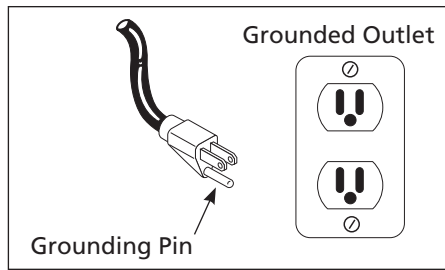

Figure 4 - Grounding Method
3. This product is for use on a nominal 120 volt circuit and has a grounding plug that looks like the plug illustrated in Figure 4. Make sure the product is connected to an outlet having the same configuration as the plug. This product must be grounded. In the event of an electrical short circuit, grounding reduces risk of electrical shock by providing an escape wire for electric current. This product is equipped with a cord having a grounding wire with an appropriate grounding plug. Plug must be plugged into an outlet that is properly installed and grounded in accordance with all local codes and ordinances.